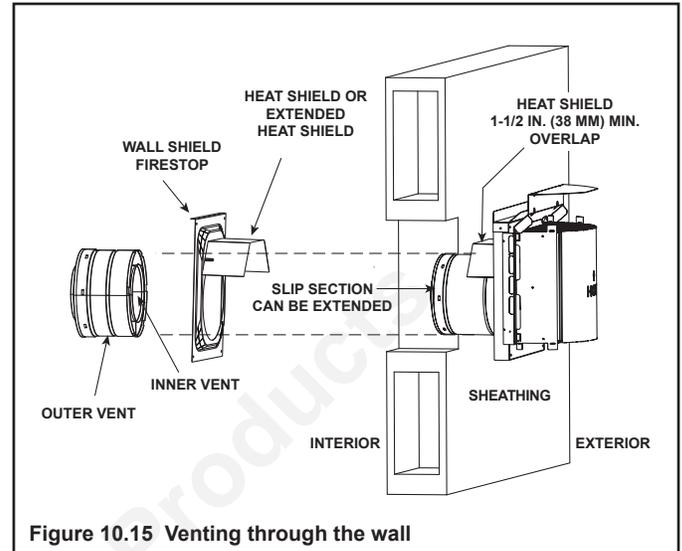

Figure 10.15 Venting through the wall
- **DO NOT** remove the heat shields attached to the wall shield firestop and the horizontal termination cap (shown in Figure 10.15).
There are two sections of the heat shield. One section is factory-attached to the wall shield firestop. The other section is factory-attached to the cap. See Figure 10.15.